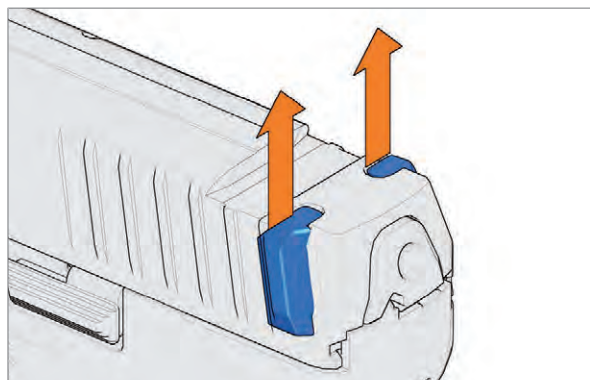

Fig. 29: Remove charging supports
2. Remove charging supports (*Fig. 29*).